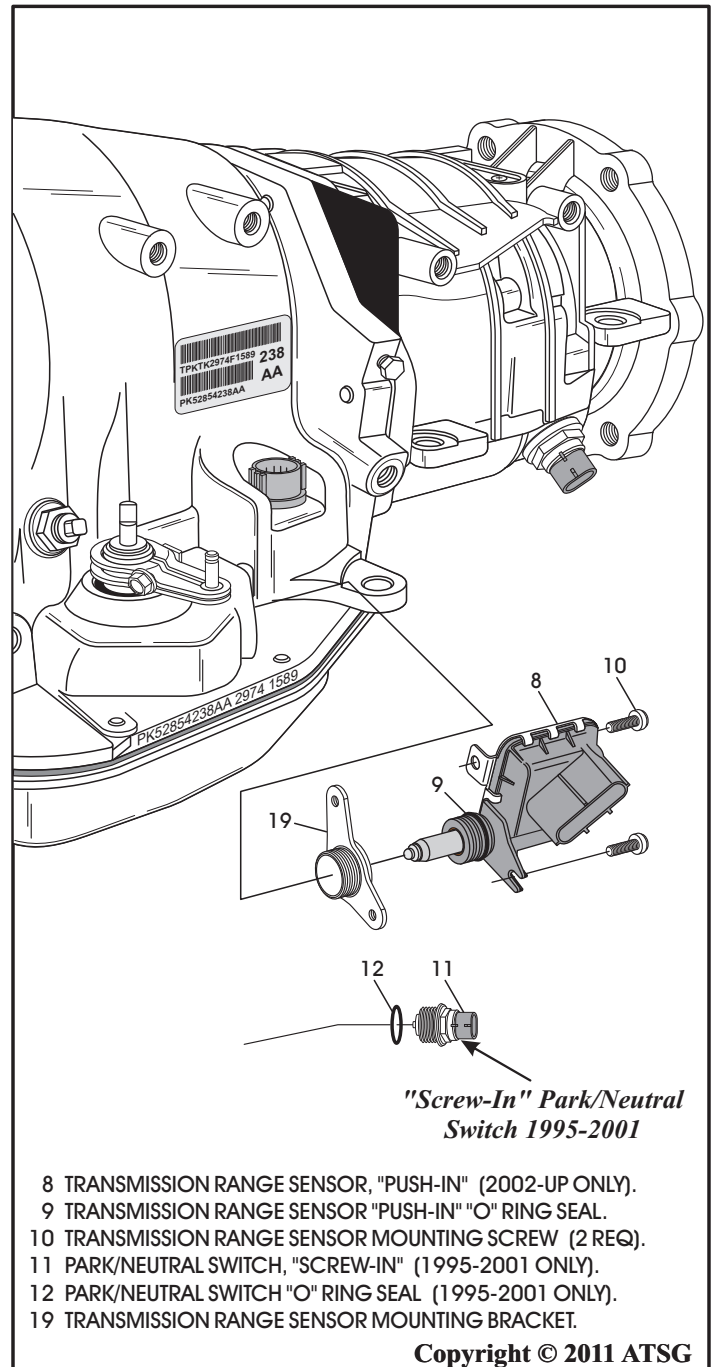

Figure 60
6. Remove the "Push-In" Range Sensor, or the "Screw-In" Park/Neutral switch, as shown in Figure 60.
7. If you have a 2002-Up model, it is not necessary to remove the "Push-In" range sensor mounting bracket unless damaged (See Figure 60).